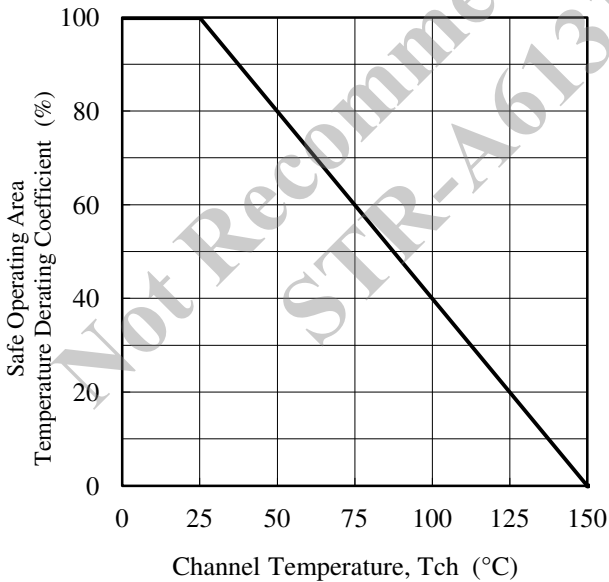

Figure 3-1 SOA Temperature Derating Coefficient Curve
- ⁽¹⁾ Refer to Figure 3-1 SOA Temperature Derating Coefficient Curve
- When the IC is used, the safe operating area curve should be multiplied by the temperature derating coefficient derived from Figure 3-1.